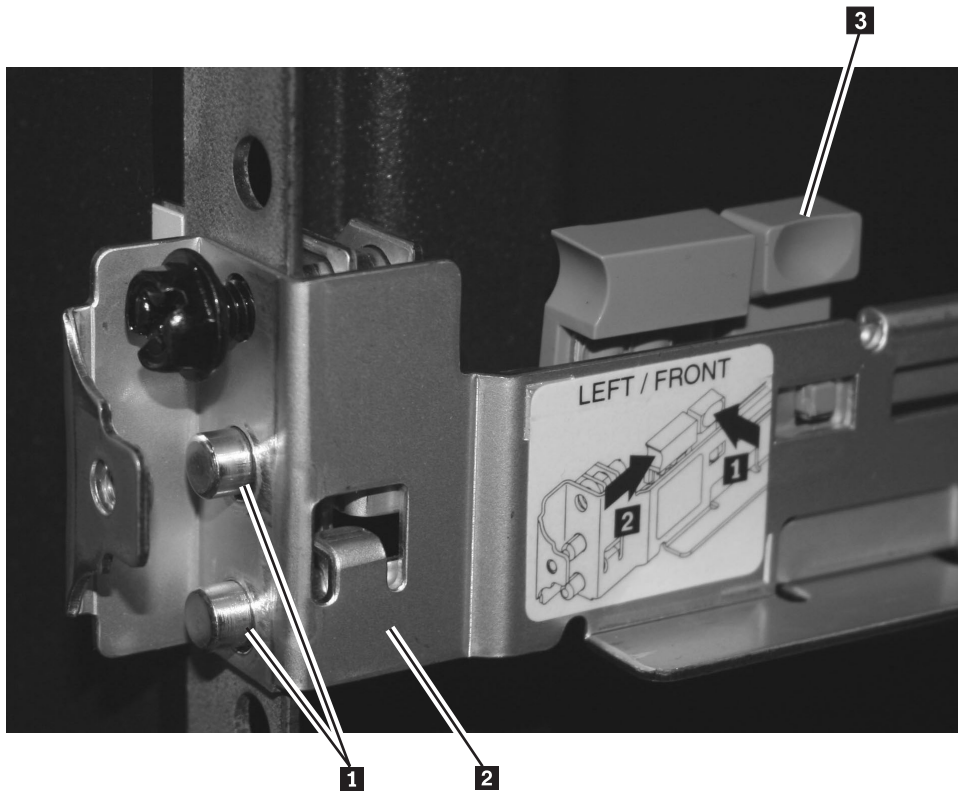

Figure 54. Aligning the pins on the left front support rail for the SAN Volume Controller 2145-8A4 with the front mounting flange
- a. Start from the front and align the pins (**1** in Figure 54 on page 72) on the front rail-locking carrier with the holes on the rack mounting flange **2** .
- b. Release the rail-locking latch by pushing the smaller blue tab **3** away from the rail. The pins spring into the closed position. Ensure that the pins go fully through the holes in the mounting flange, as shown in Figure 54 on page 72.